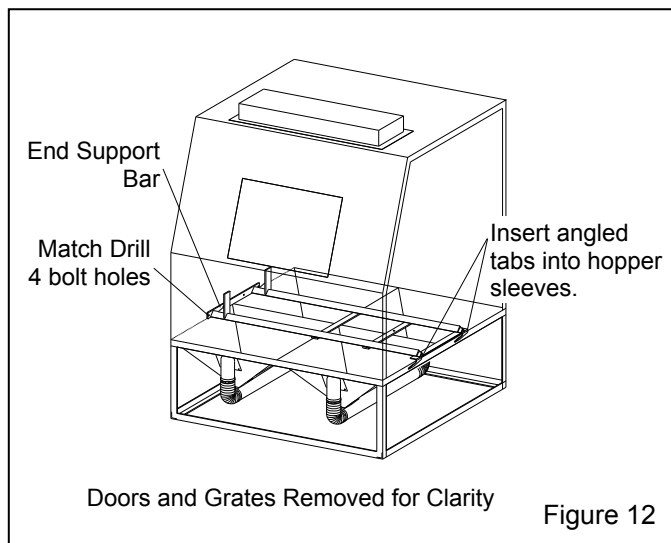

Figure 12
3.5.2 Install inside track, refer to Figure 12
3.5.2.1 Lay the inside track on the cabinet hoppers and above the grate as shown in Figure 12.